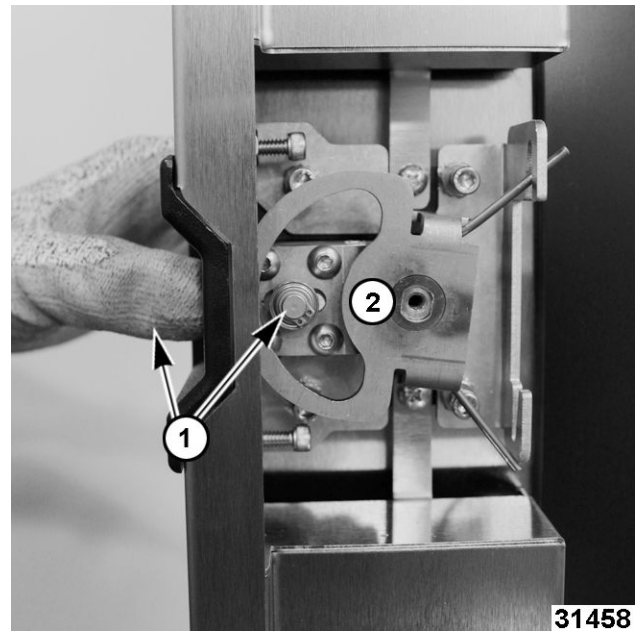

Fig. 15
5. Press latch (1, Fig. 15) into door to remove cam (2, Fig. 15).